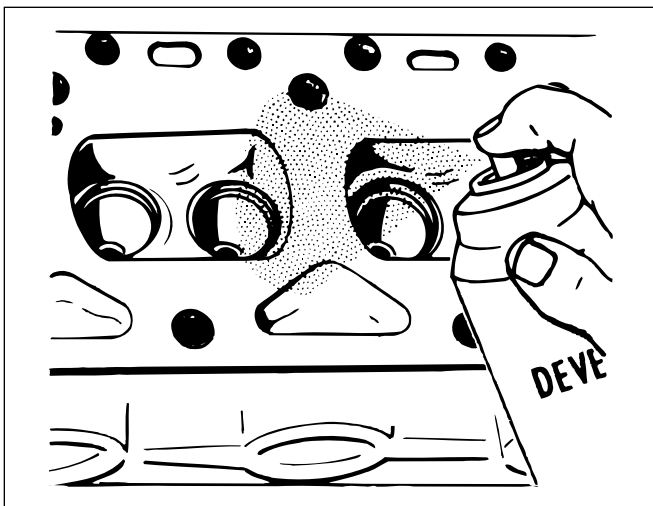

Fig. 2-9. Clean the surface, then apply the developer.
4. Apply the developer and allow it to dry, figure 2-9